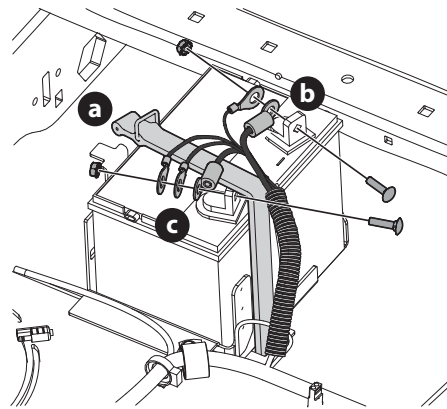

Fig. 33
2. Remove the bolt and nut securing the negative cable grouping (b) to the negative battery post (marked NEG (-)). Move the cable grouping away from the negative battery post (Fig. 33).
3. Remove the bolt and nut securing the positive cable grouping (c) to the positive battery post (marked POS (+)) (Fig. 33).
4. Unhook the strap (a) holding the battery in place (Fig. 33).
**NOTE:** Wiring harness should lay on top of battery hold down strap, otherwise damage to the wiring harness may result (Fig. 33).